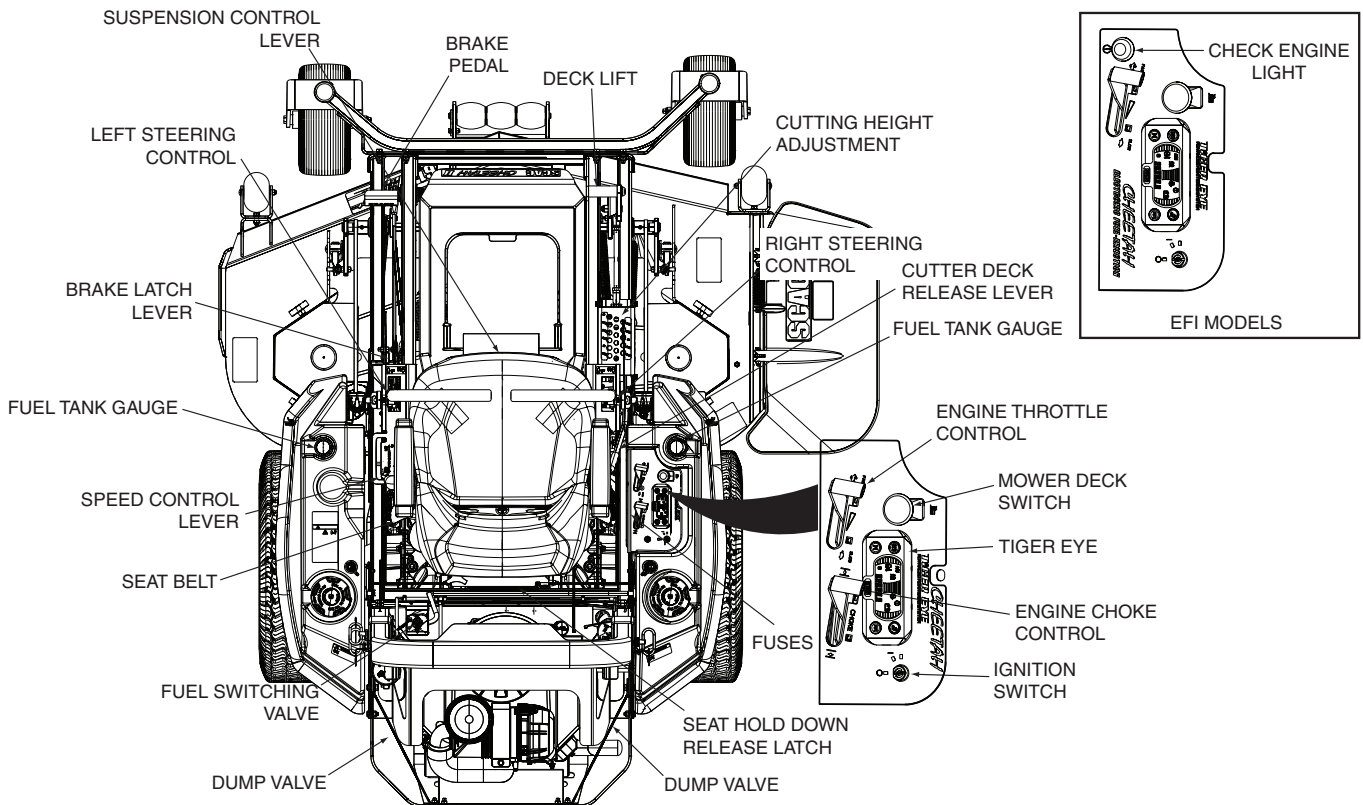

Figure 4-2. Controls and Instruments
1. **Ignition Switch (Figure 4-2).** The ignition switch is used to start the engine and has three positions; OFF, ON, and START.
2. **Mower Deck Switch (Figure 4-2).** Used to engage and disengage the mower drive system. Pulling up on the switch will engage the deck drive. Pushing down on the switch will disengage the deck drive.
3. **Engine Choke Control (Figure 4-2).** Used to start a cold engine.
4. **Engine Throttle Control (Figure 4-2).** Used to control the engine speed. Pushing the lever forward increases engine speed. Pulling the lever back decreases engine speed. Full back position is the IDLE position. Full forward is the cutting position.
5. **Left Steering Control (Figure 4-2).** Used to control the mower's left wheel when traveling forward or reverse.
6. **Right Steering Control (Figure 4-2).** Used to control the mower's right wheel when traveling forward or reverse.
7. **Fuse Holders (Figure 4-2).** Two 20-amp fuses protect the mower's electrical system. To replace fuses, pull fuse out of the socket and install a new fuse.
8. **Parking Brake Control (Figure 4-2).** Used to engage and disengage the parking brakes. Push the brake pedal forward and pull the brake latch lever back to engage the parking brakes. Push the brake pedal fully forward, then release, to disengage the parking brakes.
9. **Fuel Tank Gauge (Figure 4-2).** Indicates the amount of fuel in the fuel tank.
11. **Deck Lift Foot Lever (Figure 4-2).** Used to raise and lower the cutter deck. Push full forward to lock in the transport position.
12. **Cutting Height Adjustment (Figure 4-2).** Used to set the cutter deck at the desired cutting height.
14. **Speed Control Lever (Figure 4-2).** Used to select the mowers operating range. For the best performance while cutting, the LOW speed should be selected. HIGH speed should be selected for transport operation.
15. **Suspension Control Lever (Figure 4-2).** Used to select the optimum suspension rate based on the operator.
16. **Seat Belt (Figure 4-2).** Used to secure the operator. Seat belt must be worn at all times when the ROPS is in the upright and locked position.
17. **Seat Hold Down Release Latch (Figure 4-2).** Located behind the seat. Used to secure the seat in the operator's position. Release the latch to gain access under the seat.
18. **Check Engine Light (Figure 4-2).** Indicates the operation of the engine sensors on the Fuel Injection Engines (EFI). If a problem occurs with a sensor on the engine, the light will flash a code. See your authorized Scag Dealer for diagnosis and repair.
1. Be sure the fuel shutoff valve, located behind the operator's seat, is fully open. (See Figure 4.2.)